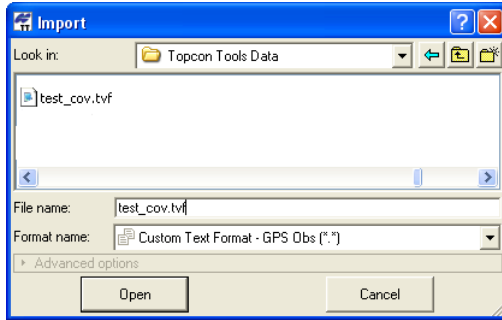

Figure 3-15. Import Custom Vector Format File
5. Click **Open** (or **Save** if exporting) to set custom format properties (Figure 3-15).